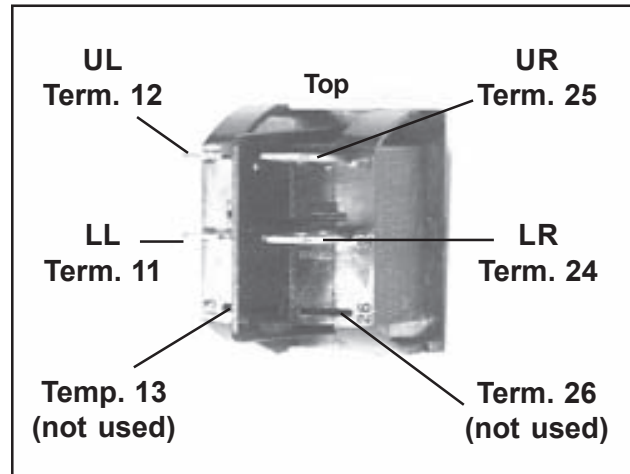

Figure 113. Rear View of On/Off Rocker Switch
4. Using tags, masking tape, or any other convenient means, tag all of the spade connectors on the switch with their positions on the switch (upper right, lower left, etc.) Terminal numbers are displayed on the rear of the switch (Figure 113) by molded-on, raised numbers, but they are very tiny and can be hard to read. Failure to mark the wires will make it difficult to connect them correctly later.
1. Examine the rear of the switch and locate Terminals **12** and **25** (Figure 113). The switch must be installed with these terminals on top.